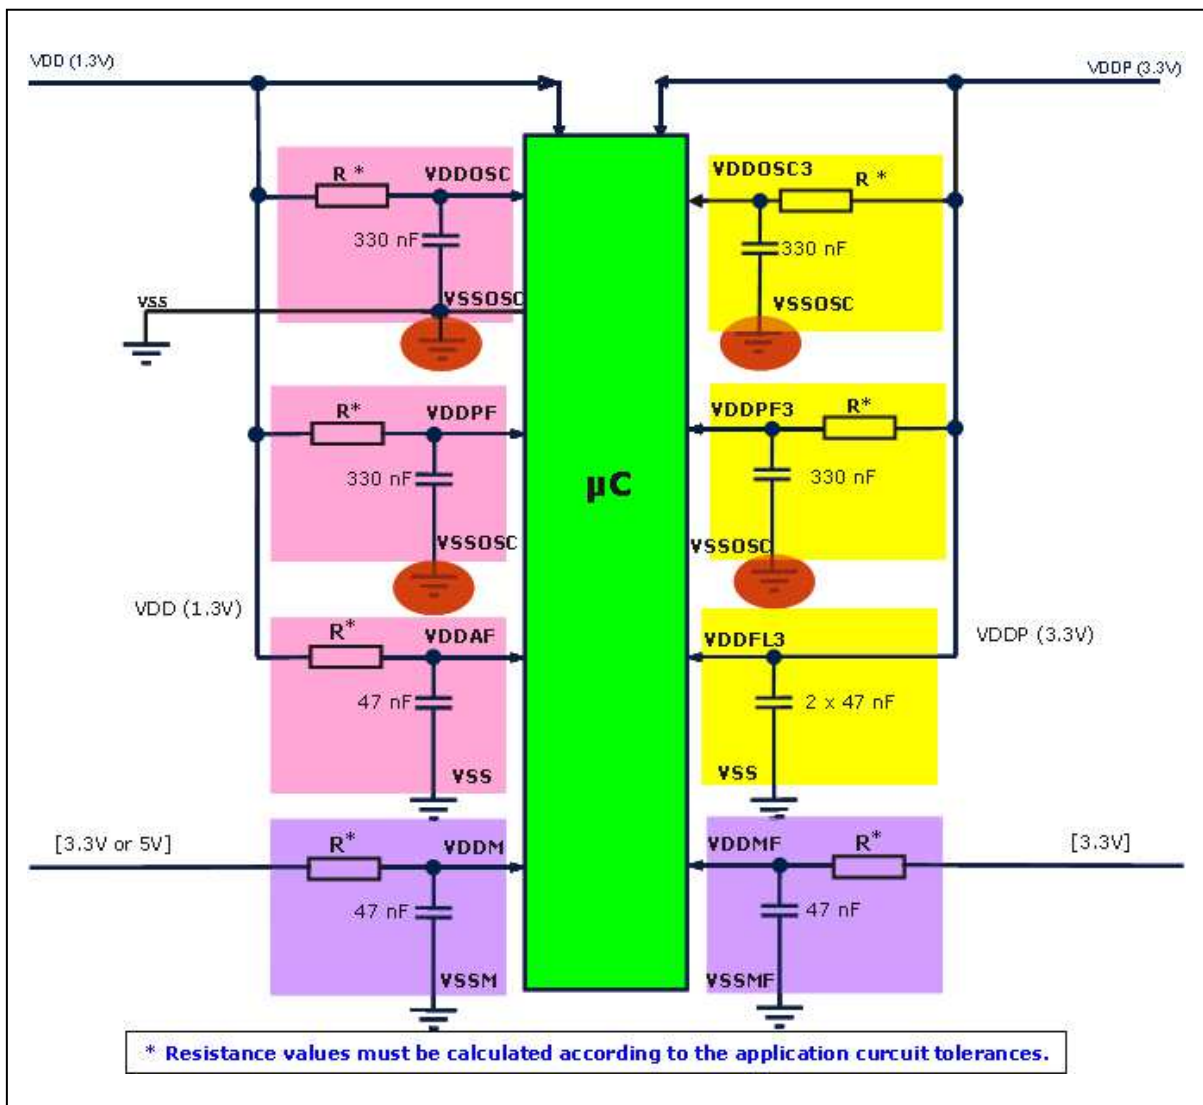

Figure 2 Filtering of VDDOSC, VDDOSC3, VDDFL3, VDDPF, VDDPF3, VDDM, VDDMF, VDDAF supply pins
- The power distribution from the regulator to each power plane should be made over filters (see Figure 2).
- RC Filters can be inserted in the supply paths at the regulator output and at the branchings to other module supply pins like VDDOSC, VDDOSC3, VDDFL3, VDDPF, VDDPF3, VDDM, VDDMF, VDDAF (see Figure 2). Using inductance or ferrite beads (5 – 10  $\mu\text{H}$ ) instead of the resistors can improve the EME behaviour of the circuit and reduce the radiation up to  $\sim 10\text{dB}\mu\text{V}$  on the related supply net.